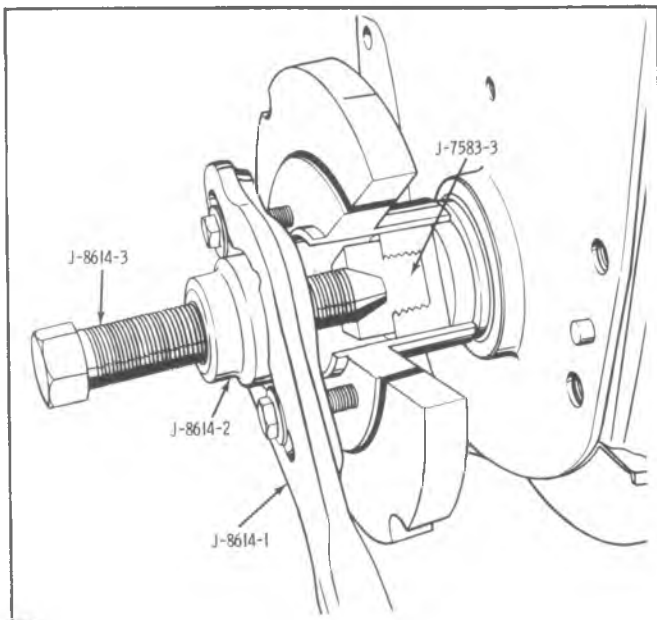

Fig. E-71—Removing Balancer
3. Using balancer puller, remove balancer as shown in Fig. E-71.